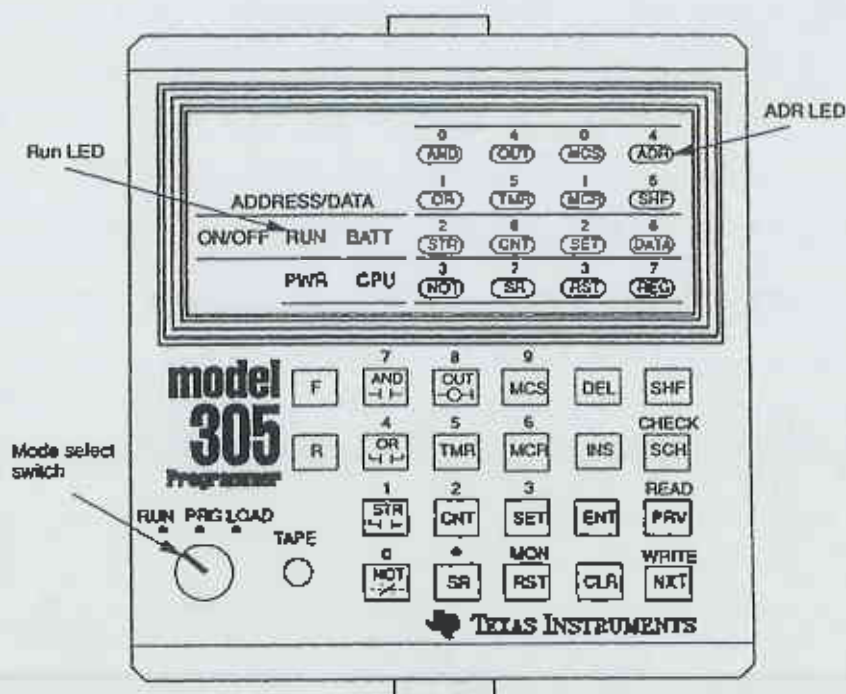

Figure 1-2 TI305 Programmer
6. Connect the TI305 programmer to the front of the CPU. The programmer display reads 0.0.0.0. and the ADR LED illuminates. See Figure 1-2.
- Place TI305 Programmer mode select switch in the PRG position (program mode). See Figure 1-2.